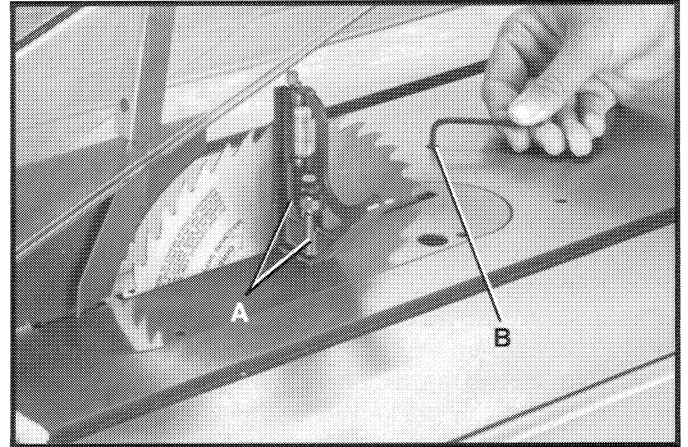

Fig. 67
4. Using a combination square (A) Fig. 67, check to see if the blade is at 90 degrees to the table surface as shown.
5. If the blade is not at 90 degrees to the table, loosen set screw (B) Fig. 67, and turn the blade tilting handwheel until you are certain the blade is at 90 degrees to the table. Then turn set screw (B) clockwise until it bottoms.